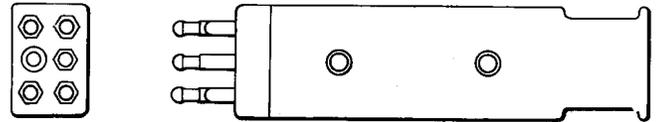

Fig. 13—463A Plug
**2.12 463A:** The 463A (Fig. 13) is a 4-conductor plug consisting of a pin and a cap assembly enclosed in two plastic shell halves. The 463A plug is arranged for use on one end of the W2GC, W2GD, W2GL, W2GM, W4BR, W4BS (Mfr Disc.), W4CJ, W4CK (Mfr Disc.), W4CL, and W4CM cords. The 463A plug replaces the 431A plug and is used on test cords for the 302- and 303-type connectors.